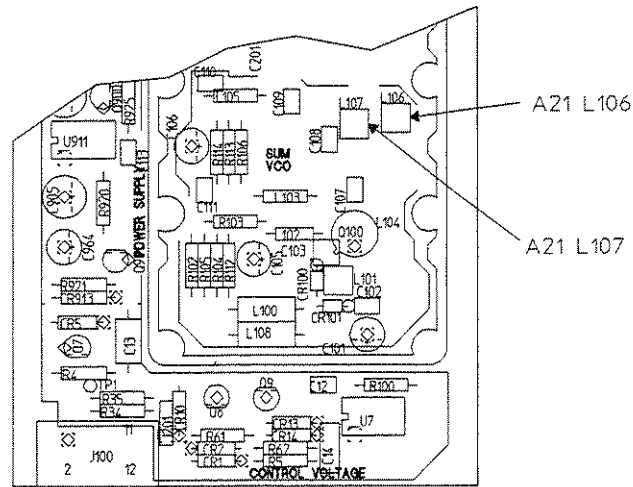
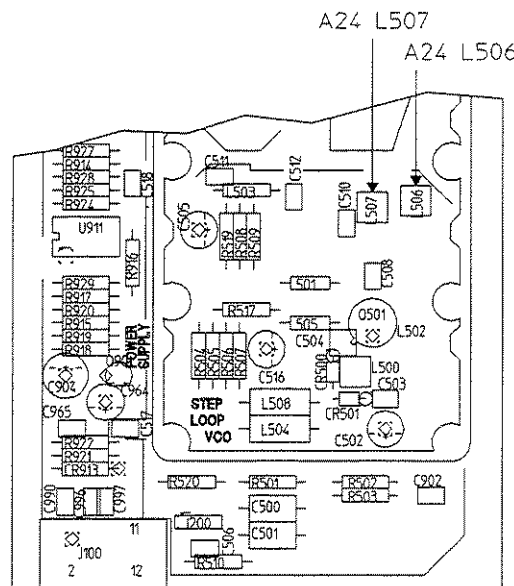

Figure 1-5. A21 Sum VCO Component Locator
Figure 1-6. A24 Step VCO Component Locator
6. Through the holes in the shield can, alternately adjust A21 L106 and L107 (see figure 1-5) for a flatness (maximum amplitude minus minimum amplitude) of less than 3 dB(p-p). During this adjustment, periodically clear the spectrum analyzer's maximum hold function.
e. Through the holes in the shield can, alternately adjust A24 L506 and L507 (see figure 1-6) for a flatness (maximum amplitude minus minimum amplitude) of less than 3 dB(p-p). During this adjustment, periodically clear the spectrum analyzer's maximum hold function.
If PRETUNE SLOPE cannot be adjusted for 306 ± 0.5 MHz, adjust either A21 L101 (see figure 1-5) or A24 L500 (see figure 1-6). Adjusting A21 L101 clockwise or A24 L500 counterclockwise reduces the frequency.